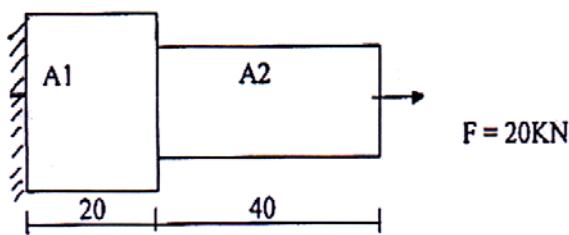

Fig. No. 4 (All dimensions are in MM)
- Q6) a)** A stepped bar is made of two materials joined together as shown in following fig.No.4. The bar is subjected to an axial pull of 20KN. Determine the displacement, reaction force at support, using a 1D spar element  $A_1 = 75\text{mm}^2$ ,  $E_1 = 200\text{GPa}$   $A_2 = 30\text{mm}^2$ ,  $E_2 = 120\text{GPa}$ . [12]